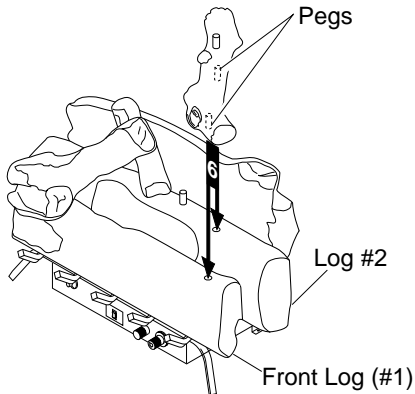

Figure 31 - Installing Crossover Log (#6) (CCL3930NR Shown)
6. Locate pegs on the bottom of crossover log (#6). Slide these pegs into the holes located in middle log (#2) and front log (#1). See Figure 31, page 15.